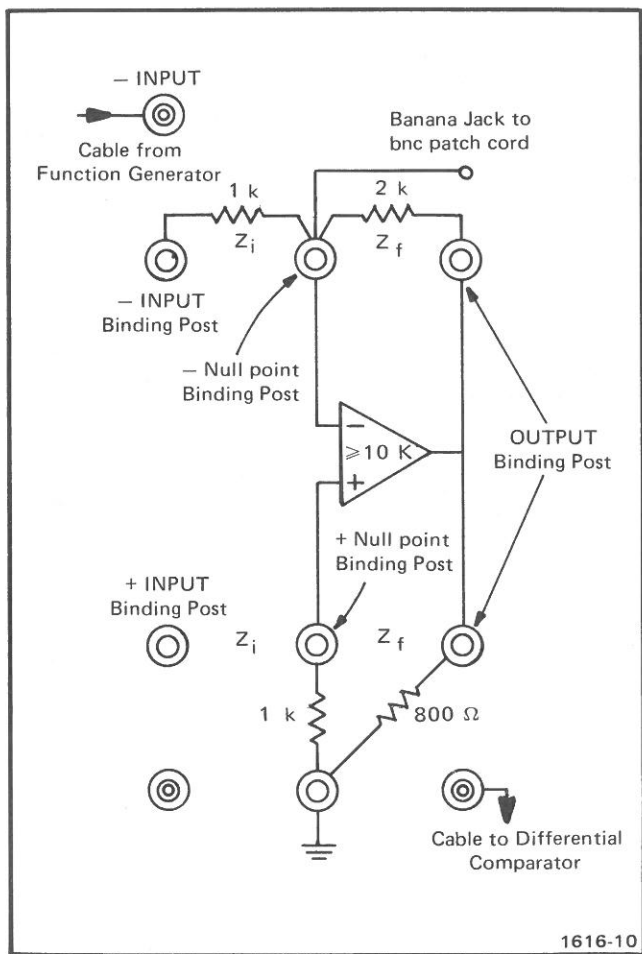

Fig. 2-1. Operational amplifier connected to check open loop gain.
c. Connect the 800 Ω, 2 k, and the two 1 k resistors to the terminals of the AM 501 as illustrated in Fig. 2-1.